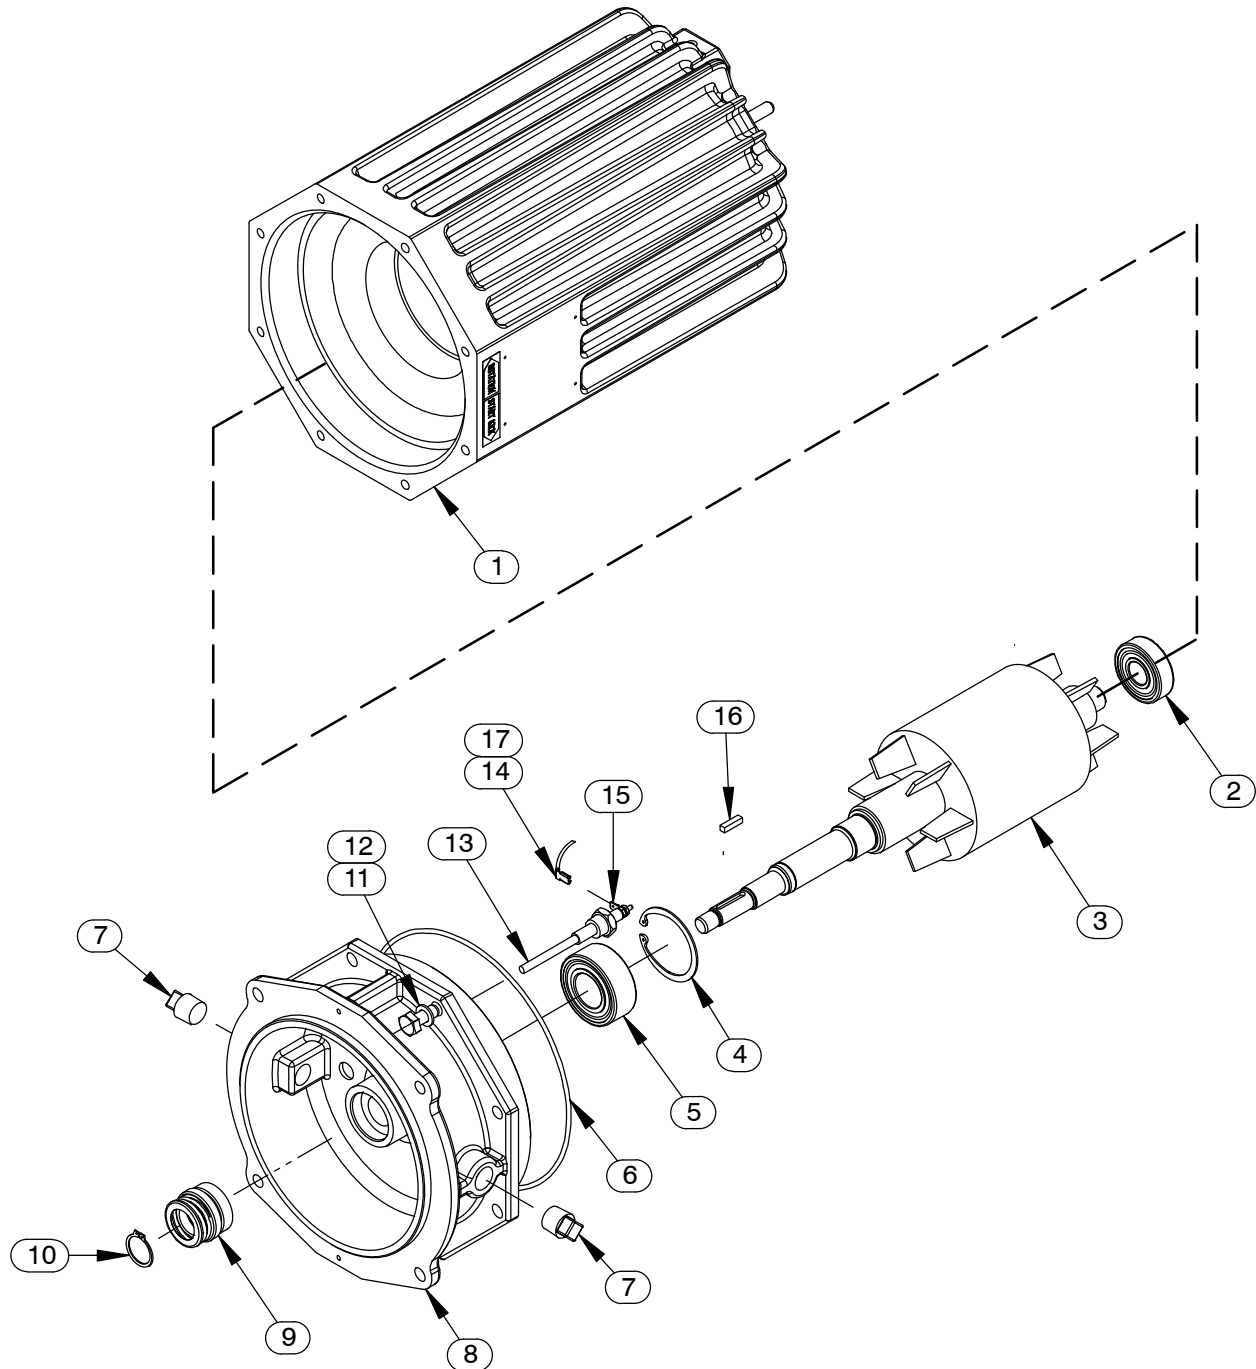

Figure E-2. 47111-802, -806 and -807 Motor Assemblies
(Figure E-2)
To remove the impeller, use two thin-bladed screwdrivers positioned 180° apart to pry on the back of the impeller and “walk” the impeller off the shaft. Use increasingly larger screwdrivers (or wedges) as necessary. After the impeller comes free of the shaft, retain the impeller key (16, Figure E-2).
An alternate method of removing the stationary element is to remove the screws (16) securing the seal plate (14) to the motor assembly (7). Pry the assembled seal plate and stationary element off the shoulder of the intermediate (8, Figure E-2). Remove the O-ring (6) and press the stationary element and seat out of the seal plate from the back side.
Upper Seal Removal (Figures E-2 and E-3)
With the pump inverted, stuff a clean tissue into the stationary seal seat bore of the intermediate (8, Figure E-2) or wrap a small rag around the shaft to prevent foreign material from entering the motor cavity.
Inspect the rotor shaft (3, Figure E-2) for damaged threads, scoring, or nicks. Remove nicks and burrs with a fine file or hand honing stone to restore original contours. If the shaft is bent or severely damaged, the rotor and shaft must be replaced as an assembly (see **MOTOR DISASSEMBLY**).